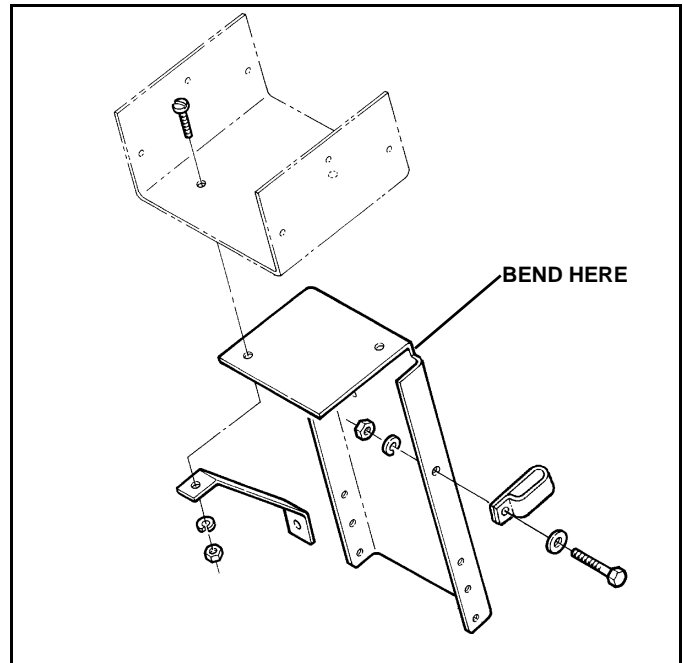

Figure 1-1
NOTE: The top of the Stand Plate can be bent to accommodate operator preference. (See Figure 1-1)
3. Attach the Brace Strap to the Stand Plate with one #10-24 x 1/2" Round Head Machine Screw, Lock Washer and Nut. (See Figure 1-1)